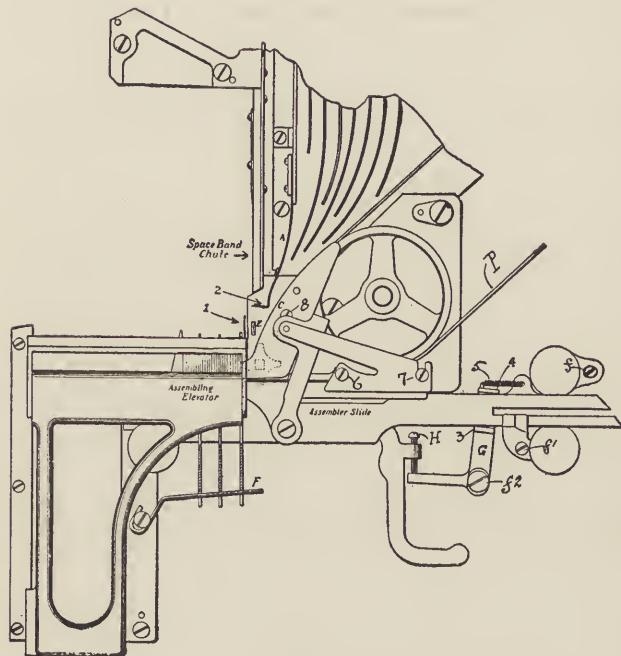

FIG. 13.
“**I**N order to prevent transpositions of matrices and spacebands, ‘squabbling’ of matrix lines, etc., the assembler adjustments must be carefully maintained,” said the Machinist one day to the Operator. “The assembler chute spring (*A*, Fig. 13) should be bent so as to allow the space of about the thickness of the cap. *W* between it and the rail (*C*). Just above this point it should be curved so as to tend to throw the bottom of the matrix toward the assembler wheel. The point of the chute spring should be inclined slightly above the horizontal (2), as otherwise it interferes with the delivery of matrices and causes the spaceband to beat the last matrix of a word into the assembler by the top of the matrix striking on the points of the chute spring and causing it to be retarded long enough for the spaceband to transpose. The tongue in the lower end of the chute should be bent so as to deliver the spaceband behind the center of the assembler star. The catch spring (*E*) is intended to prevent matrices falling back to the right while assembling, though if the spring is missing altogether the assembler will probably work just as well.”
and each matrix as it assembles causes the slide to jump violently to the left. If not screwed down far enough, the slide will not return when assembler is elevated. The clutch is released when the line is elevated by the corner (*G*, Fig. 31) lifting the end of the lever on which the screw (*H*, Fig. 13) is mounted, and the long spring on the end of the assembler slide draws the slide back into position.
"Of course, those corners (3, 4) wear in time, and a patch must be fitted in. These corners should be kept square and the brake free from oil. The three screws (*f*, *f*¹, *f*², Fig. 13) when removed allow the whole device to be taken off."
The matrix catch spring (*E*, Fig. 13) can only be attended to while this part is off the machine.
“Whenever the matrix driving belt (*P*, Fig. 13) stretches and becomes so loose as to allow matrices, especially capital letters, to slide off to one side, the belt can be tightened by loosening the stud-nut on the upper pulley and moving the pulley back. The assembler driving belt and the round belts which drive the keyboard rollers must be kept taut, though the pulleys on the latter are held by friction springs instead of being firmly fastened to the roller shafts, so it may be the pulleys are slipping though the belts are tight.
“NOW that you have mastered the assembling devices,” said the Machinist, “we’ll take up the next step—the line-delivery carriage. The upright pin (1, Fig. 13) on the back rail of the assembling elevator, releases a catch or pawl, when the elevator is raised, which then allows the carriage, conveying the assembled line, to travel to the left. This pin (1) should lift the pawl 1-64 of an inch above the hook on the carriage, and is adjustable by means of a screw on which the pin sets, reached from beneath the assembler. As the line passes out of the assembler, the carriage trips the hook which held the assembler in an elevated position, allowing it to be lowered. I always hang a counterweight on the assembler lever so as to lighten the weight. As good a counterweight as any can be made by filling a quarter-pound tin can with molten metal and then inserting a nail, previously bent into an inverted U, into the metal just before it solidifies, thus making a loop by which it can be suspended from the lever by a strip of belt lacing.